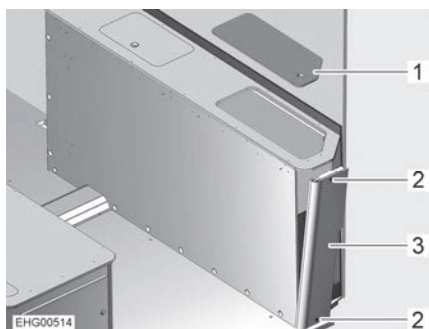

Fig. 159 Bedding box on the right
- Remove the service cover (Fig. 159,1).
- Unscrew 2 screws (Fig. 159,2).
- Reach into the bedding box from above and press the side wall (Fig. 159,3) slightly outwards.